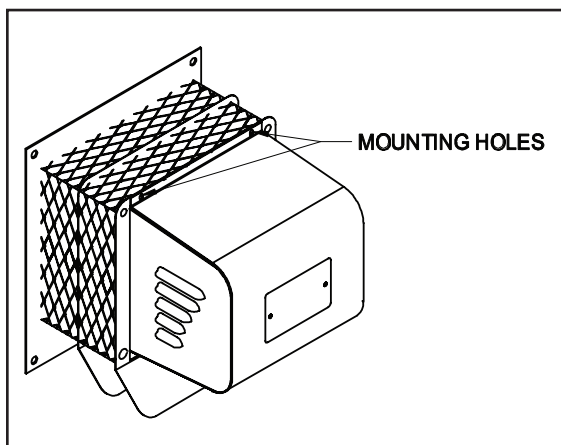

Figure 18
2. Remove the motor enclosure cover by loosening the four screws. (See Figure 18)